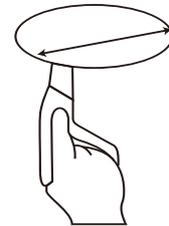

Fig 2.
- Connect the mains supply to the downlight. (see fig 2.)